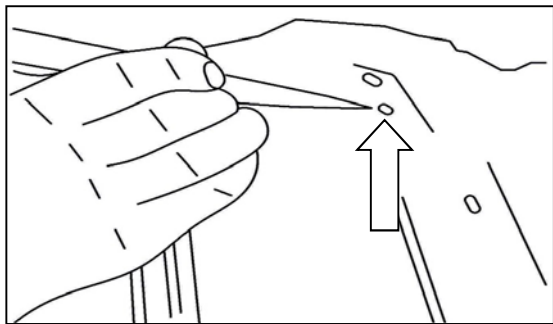

Figure 3
3. Drill out the **driver side** hole where the plastic trim clip was located using a 3/8" bit. **See Figure 3.**